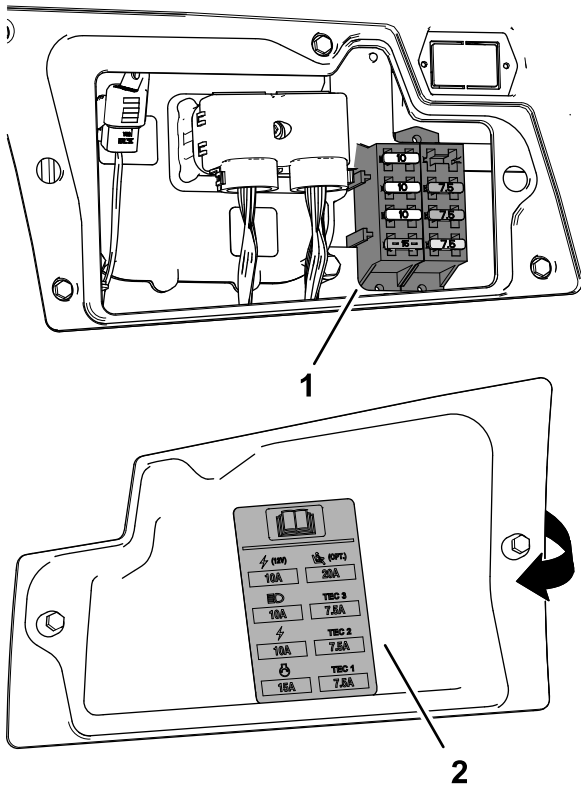

Figure 99
3. Replace the open fuse (Figure 99) with the same fuse type and amperage rating.